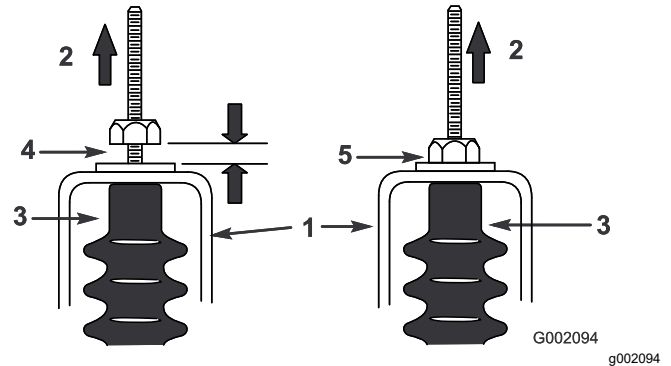

Figure 47
5. Pull up on each shift cable and ensure that there is a 0.76 to 1.52 mm (0.03 to 0.06 inch) between the nut/washer and the neutral bracket (Figure 47).